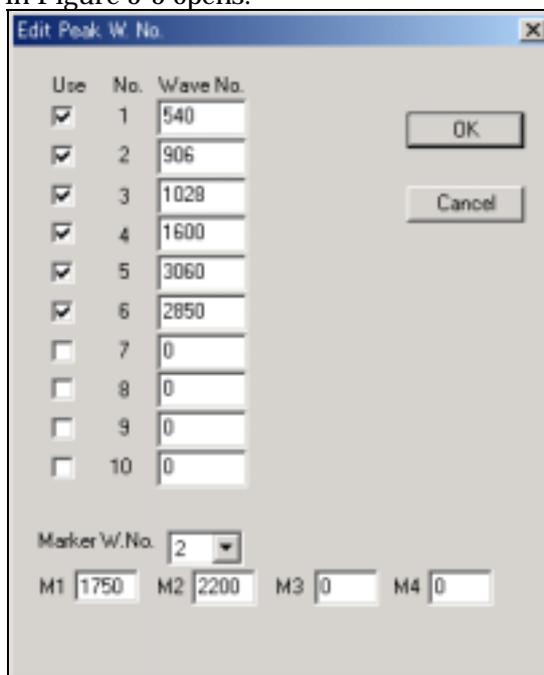

Figure 5-5. “Edit Peak W. No.” dialog box
1. The dialog box in Figure 5-5 opens.